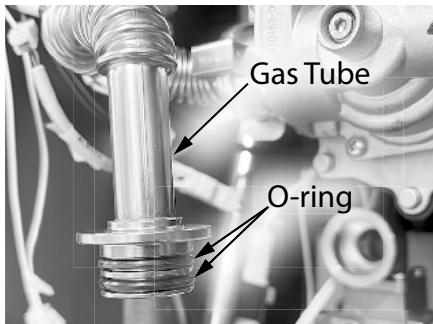

Figure 4 - O-ring replacement (two o-rings)
- 14 Install the two new O-rings on the gas tube as shown in Figure 4.